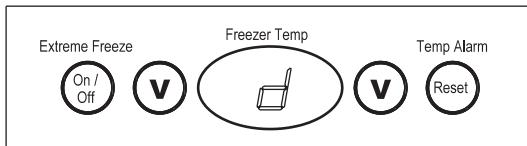

Figure 7
The door/lid alarm will activate if it is ajar for more than five (5) minutes. The control panel will beep every five (5) seconds, the red alarm light will glow and the display will alternate between "d" (DOOR/LID) and the cabinet temperature (see figure 7). Press the ALARM RESET button to turn the audible alarm (beep) off. The display will keep flashing and the red light will stay on. Close the door/lid of the freezer to return it to normal operation.